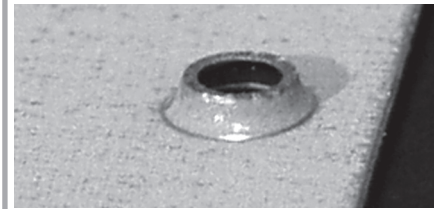

Fig. 5.4
- The mounting bracket installs within the ceiling, affixing to the top side of the ceiling. Place the bracing with the tapered ends of the screw holes facing down (**protruding ends facing up**). (Fig. 5.4)
- The mounting bracket installs within the ceiling, affixing to the top side of the ceiling. Place the bracket with the tapered ends of the screw holes facing down (**protruding ends facing up**). (Fig. 5.4)